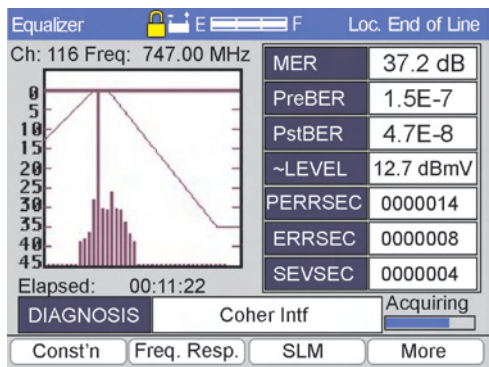

Figure 4-30
**Equalizer** - The equalizer function (F1) provides a similar display with an adaptive equalizer stress display in place of the constellation display as shown in Figure 4-30.